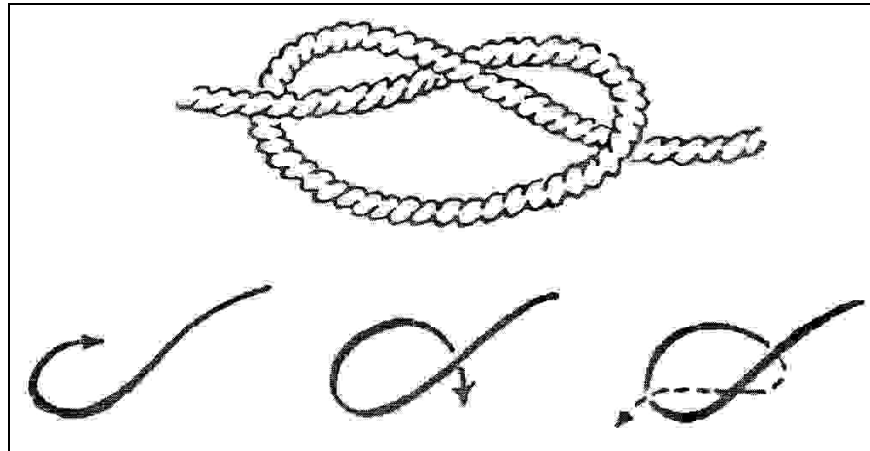

Figure 3-76. Overhand Knot
4. Tie an overhand knot (see Figure 3-76).